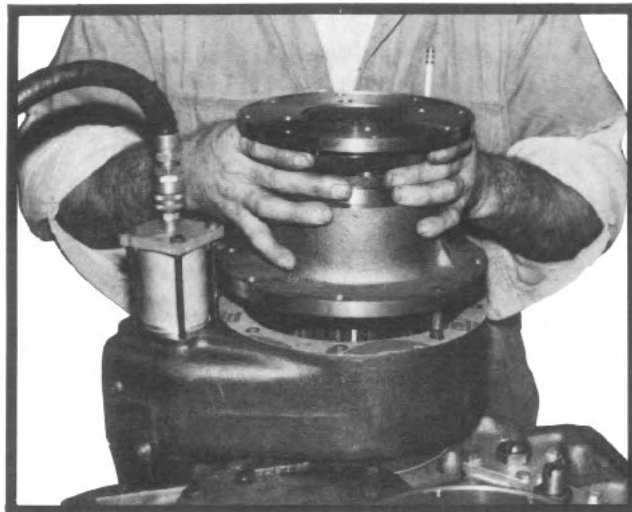

Fig. 1
2. Tap carrier to loosen and withdraw carrier and output shaft assembly (see fig. 1).